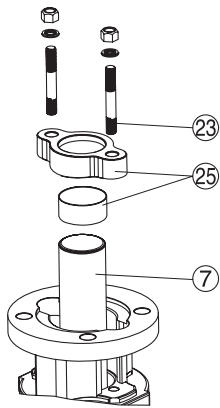

Figure 10 Assemble gland bridge
- 6 Carefully clean the gland bushing and gland bridge (23), and then insert in the respective sequence. (see Figure 10)
- 7 Reassemble the gland bridge bolt (23) in accordance with page 8, then assemble the nut by hand.
- 8 Reassemble the key (27) on the end of the upper stem (7).